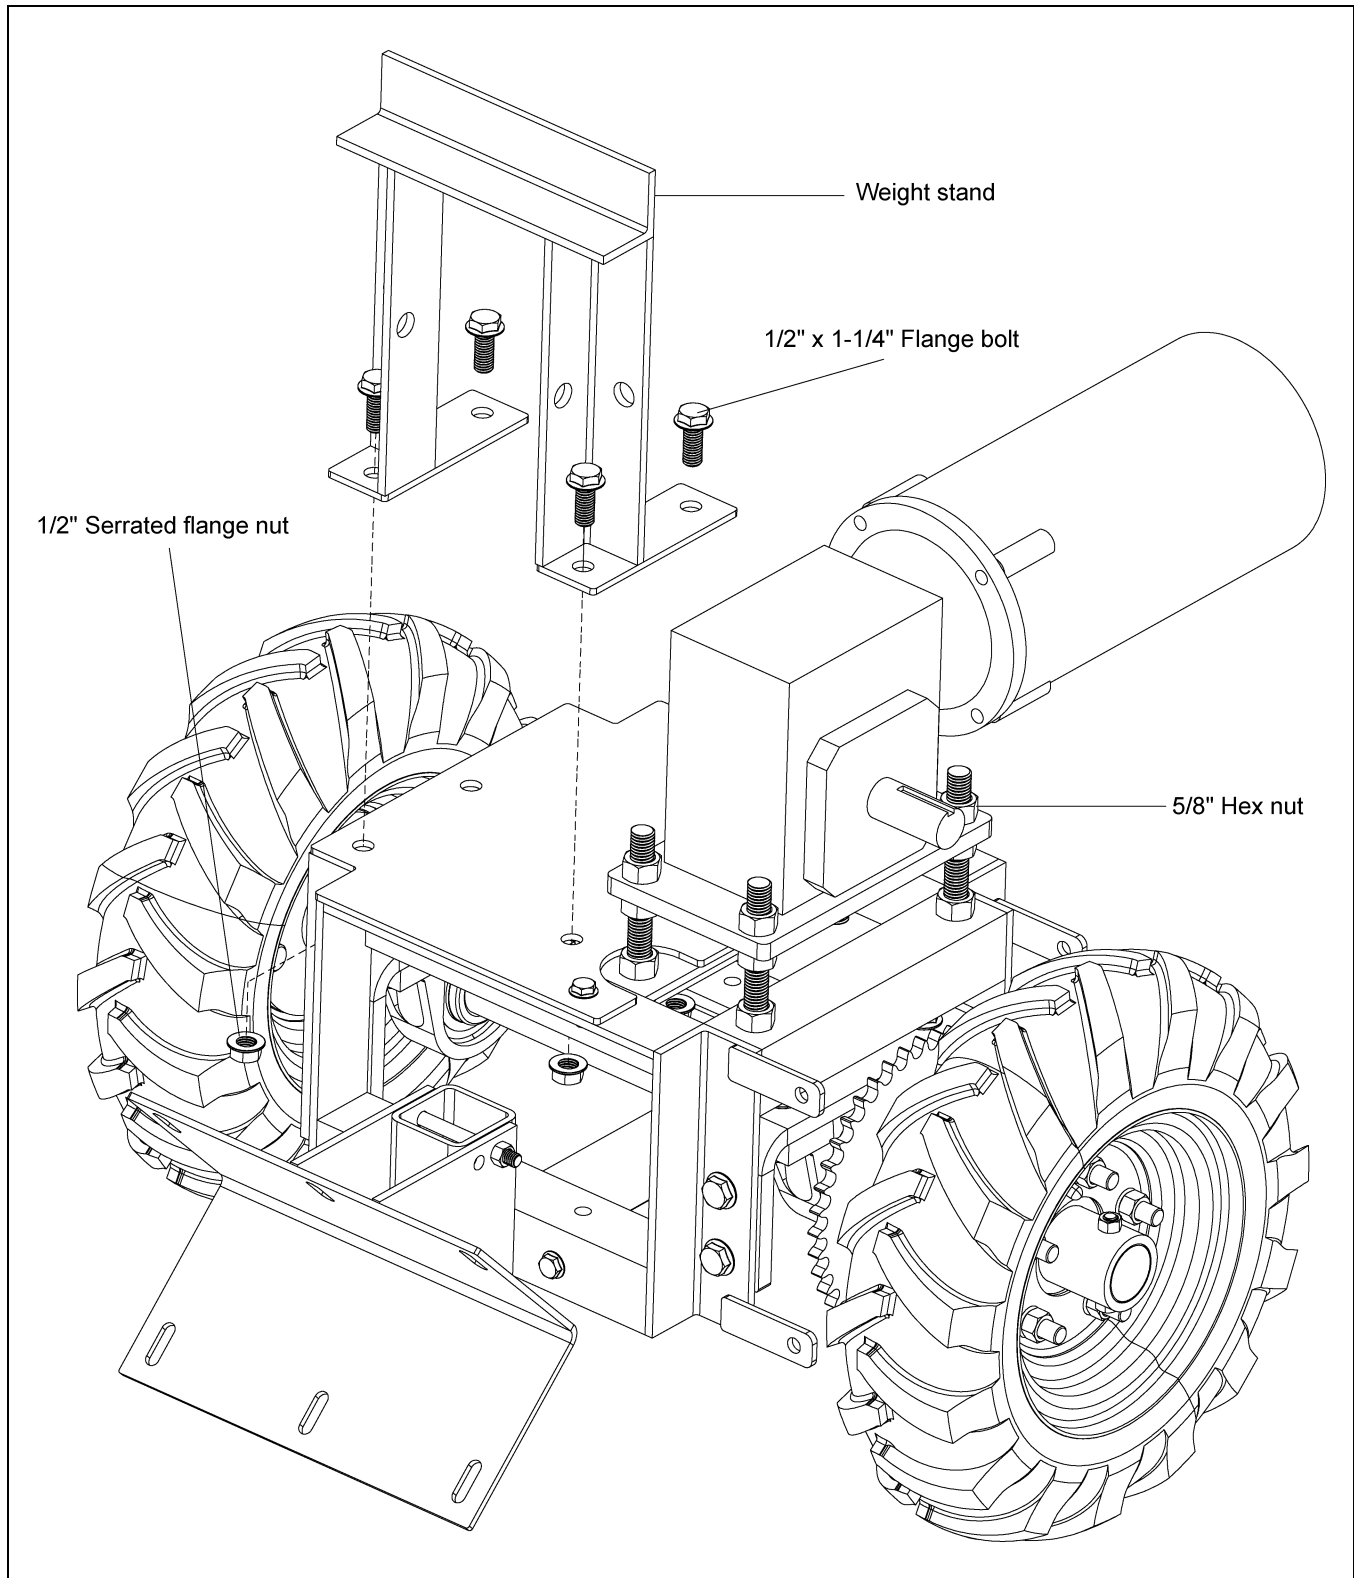

Figure 4H
14. Mount the gearbox plate and motor assembly to the 5/8"-11 x 6" threaded rod installed to the tractor frame using four (4) 5/8"-11 hex nuts.
15. Attach the weight stand to the weight plate and tractor frame with four (4) 1/2"-13 x 1-1/4" flange bolts and serrated flange nuts. (See Figure 4H.)